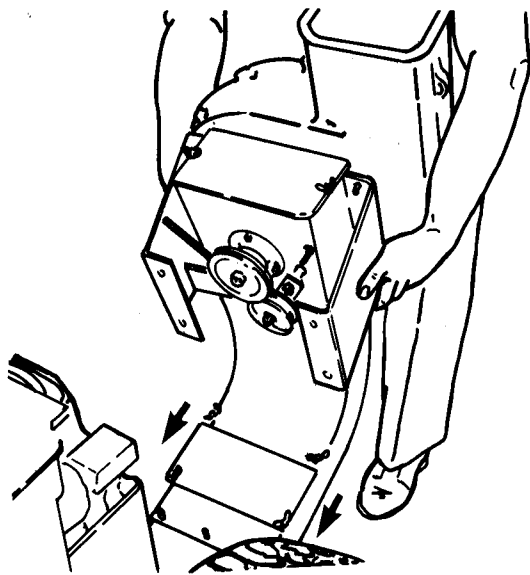
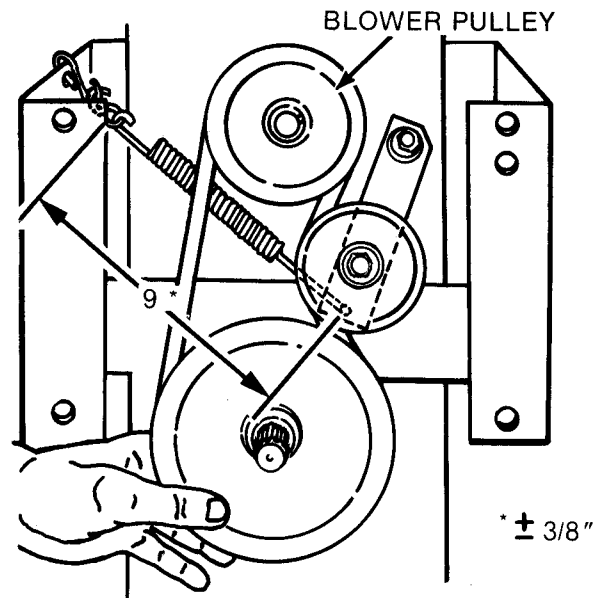

FIG. 12 - POSITIONING BLOWER UNIT
FIG. 13 - BLOWER BELT DETAIL
Step 9: Before installing blower unit, insert key in blower, install blower pulley (figure 13) with hub toward bearing. Do not tighten setscrews at this time. Lower the mower then slide the blower unit between the rear wheels into position under the tractor. **Note:** Lift the inlet chute of the blower unit over the top edge of the mower discharge chute as it is guided in(Figure 12).
Step 11: Unhook the idler spring from the right side mounting bracket, install the blower drive belt over the pulleys as shown in figure 13. Use S hooks (as required) to connect the spring to the bracket and to stretch the spring out to approximately 9" as measured in figure 13.